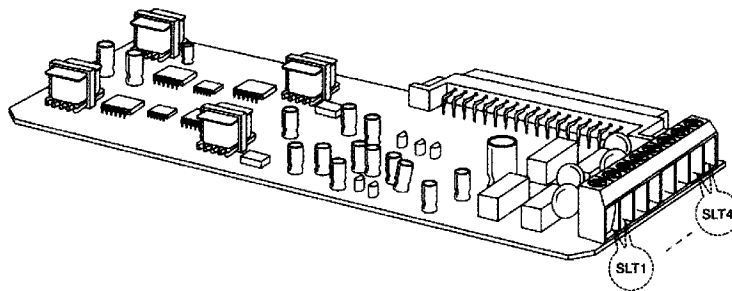

Figure 3.4.9 Exterior of the SLIB
The SLIB board provides four(4) ports of SLT interface. The connection between the SLIB and Single Line Telephone are performed through TERMINAL BLOCK(CN2). The exterior of them are shown in Figure 3.4.9